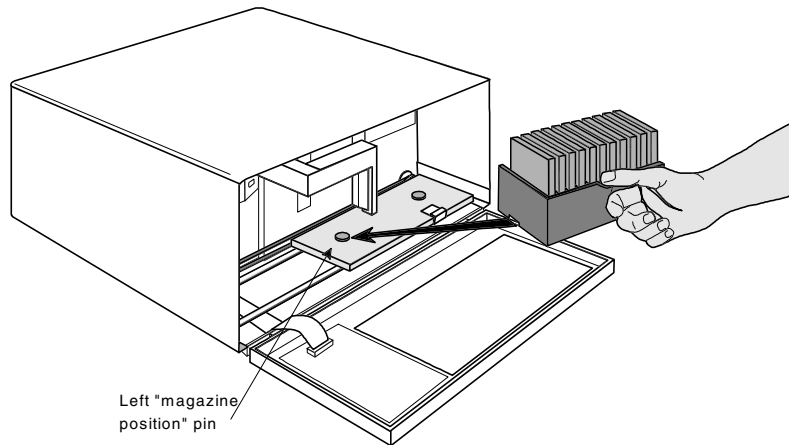

Figure 10. Placing the Magazine onto the VLS
- ❑ Holding the magazine by the thumbhole handle, and at a 45° angle to the carriage, slip the magazine onto the left side of the carriage, over the magazine position pin (see Figure 10).